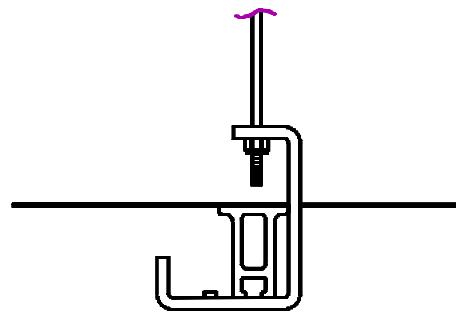

Figure 2a. Installation on a 211 aluminum crossmember
7. Place the Conduit Carrier in position on your ladder rack. Install the "U" Clamps and Clamp Brackets (see Figure 1.). (See Figures 2a, 2b and 2c for installation of "U" Clamps and Clamp Brackets for your crossmember). Before tightening the nuts, make sure the conduit carrier is correctly positioned and the rear door latch is pointing down as shown in the illustration.